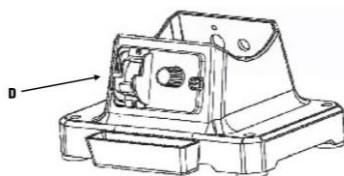

Fig. 6
1. Locate the on/off switch (D) on the front of the tool's base (Fig. 6).